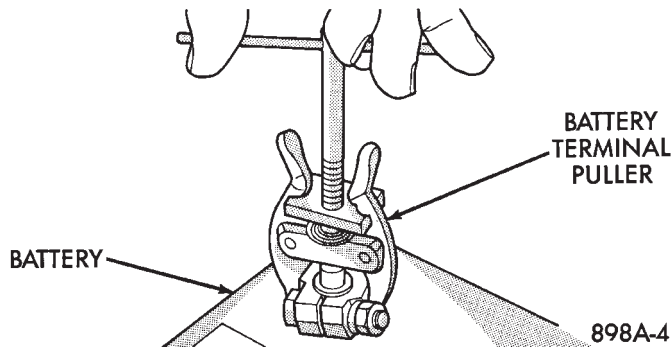
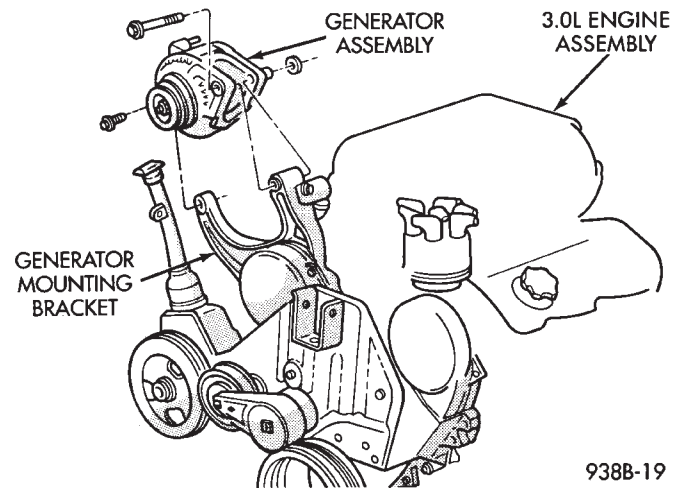
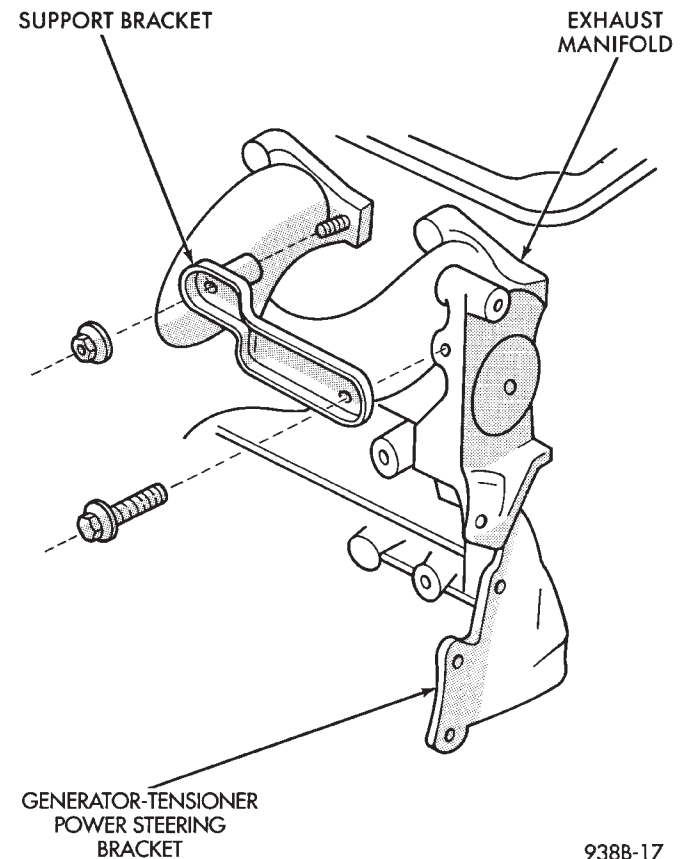
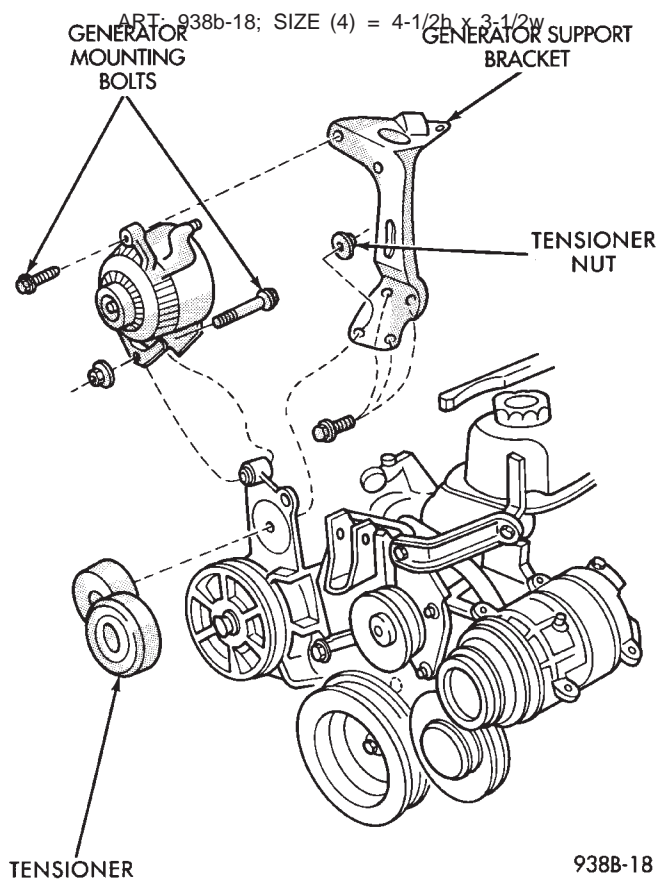

Fig. 1 Remove negative battery (-) Cable
Fig. 6 Remove or Install Generator Mounting Bolts—3.0L Engine
Fig. 7 Support Bracket for Generator Tensioner Power Steering Bracket
Fig. 8 Generator/Support Bracket—3.3L Engine
- (1) Disconnect negative battery cable (Fig. 1).
- (2) Remove generator drive belt. Refer to Group 7, Cooling System.
- (3) Remove the generator mounting bolts and separate the generator from the mounting bracket (Fig. 6).
- (4) Remove the B+ terminal nut, field terminal nuts, and ground/wire harness hold-down nuts. Remove wire connectors.
- (5) Remove the generator from the vehicle.
- (6) For installation, reverse above procedures. Tighten all fasteners to the proper torque. Refer to the
- (3) Loosen, but do not remove the nut on the support bracket at exhaust manifold (Fig. 7).
(4) Remove the generator tensioner power steering bracket bolt.
(5) Remove the tensioner stud nut and the tensioner (Fig. 8).
(6) Remove the generator mounting bolts.
(7) Remove and position the power steering reservoir from the generator mounting bracket. Do not remove the hoses from the reservoir.
(8) Remove the three generator support bracket bolts (Fig. 7).
(9) Remove intake plenum-to-generator mounting bracket bolt.
(10) Remove generator support bracket (Fig. 8).
(11) Position generator and remove generator wiring.
(12) Remove generator.
(13) For installation, reverse above procedures. Tighten all fasteners to the proper torque. Refer to the Torque Specifications chart at the rear of this group.